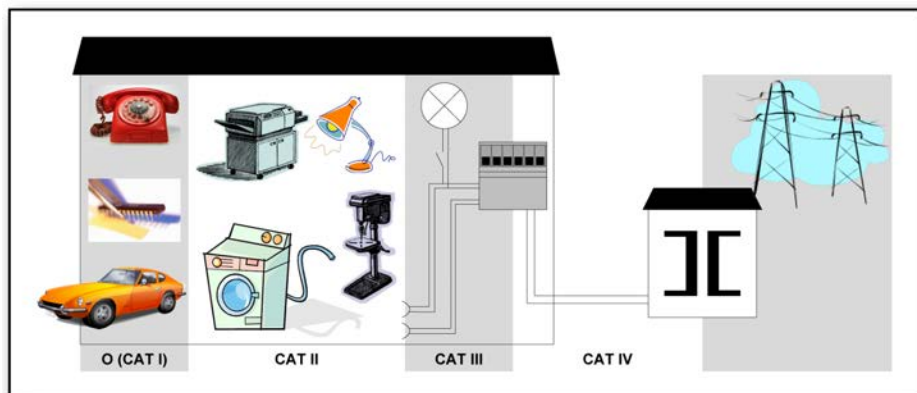

Fig. 2.1 Category indication in accordance with IEC 61010-2-030:2017
**CAT II:** This category is for measurements directly connected to a low voltage mains supply. Measurements for this category are mains sockets in household applications or portable tools. This category expects a minimum of three levels of overcurrent protection between the transformer and connection point of the measurement. (See Fig. 2.1).
**CAT III:** This category is for measurements directly connected to the distribution part of a low voltage mains installation. Measurements for this category are circuit breakers, wiring, junction boxes, etc. This category expects a minimum of two levels of overcurrent protection between the transformer and connection point of the measurement. (See Fig. 2.1).
**CAT IV:** This category is for measurements directly connected to the source of a low voltage mains installation. Measurements for this category are overcurrent protection devices, ripple control units, etc. This category expects that there is a minimum of one level of overcurrent protection between the transformer and connection point of the measurement circuit. (See Fig. 2.1).